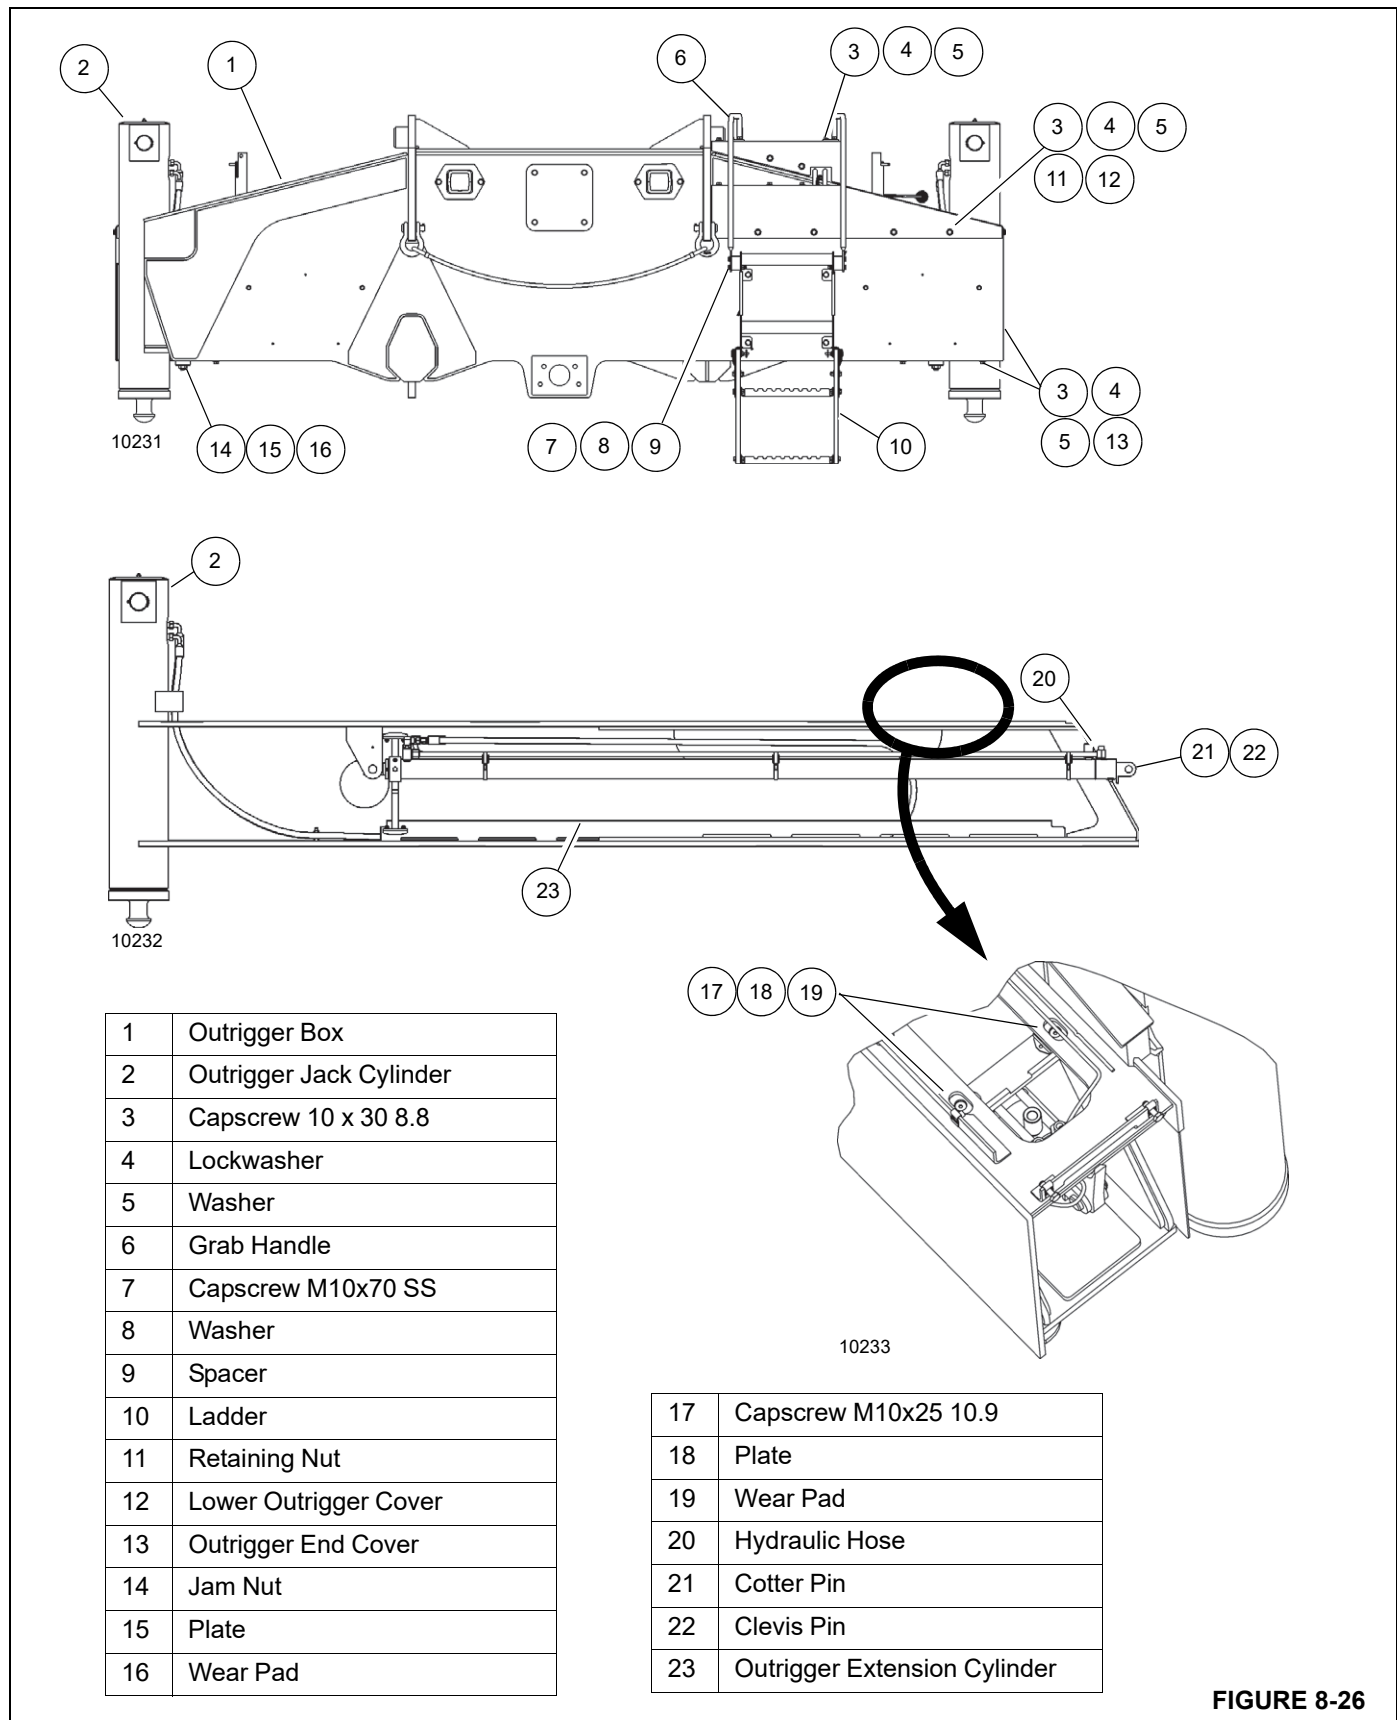

FIGURE 8-26
The outrigger box assembly(1, Figure 8-26) consists of an outrigger beam, a jack cylinder (2), an extension cylinder (23) (including the Outrigger Monitoring System (OMS) sensor), and the required hoses and mounting hardware.
NOTE: Outrigger beam removal and installation is similar for both the front and rear outriggers beams (Figure 8-26).
5. Apply anti-seize compound to the clevis pin (22, Figure 8-26). Secure the cylinder barrel to the housing with the clevis pin (22) and cotter pins (21).